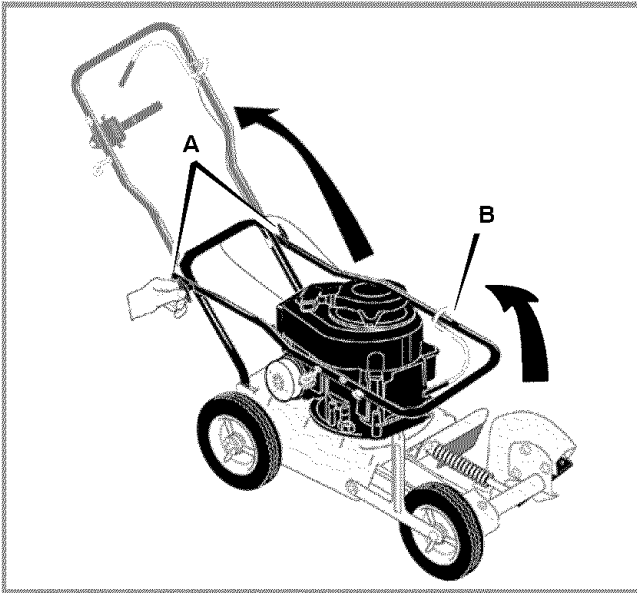

Figure 2: Handle Assembly
- 1 Loosen the knobs (A) and raise the upper handle (B) to the upright position. See Figure 2.
- 2 Tighten the knobs. Make sure the knobs are to the outside of the handles as shown in Figure 2.